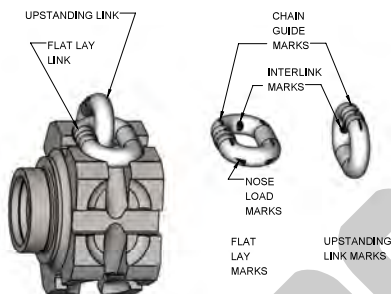

Figure 17. Chain Wear Areas
3. Slack the portion of the chain that normally passes over the lift-wheel (sprocket) or idler sprocket on multi-reeved hoist. Examine the chain links for wear ( see figure 17). If the wire diameter anywhere on the link measures less than 90% of the nominal wire diameter, the chain must be replaced.